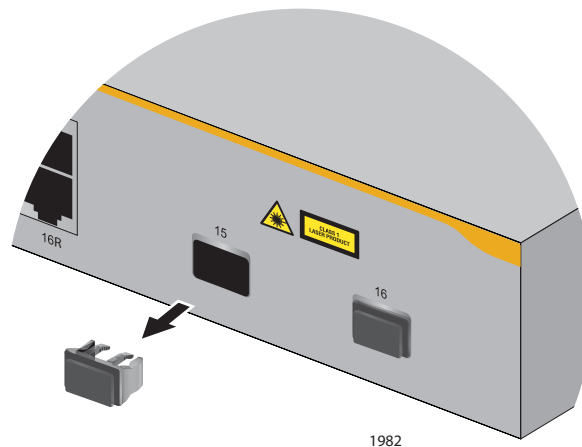

Figure 27. Removing the Dust Plug from an SFP Slot
2. Remove the dust plug from an SFP slot. See Figure 27.